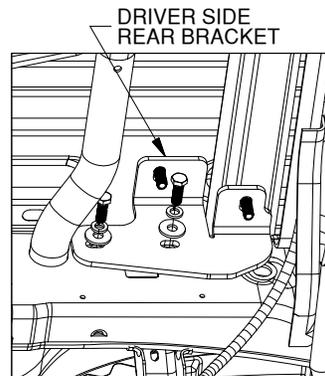

FIGURE C4: View looking up at driver side frame
- Install the driver side rear bracket.** Locate the driver side rear bracket, two M12 x 35mm hex head bolts (shorter), two 1/2" split lockwashers, and two 1/2" flat washers. Position the bracket under the installation location of the two driver side carriage bolts. Maneuver the bracket so that the 1/2" carriage bolts passes through the slots at the top of the bracket. Using 1/2" lockwashers and 1/2" flat washers, Thread the shorter (35mm) M12 hex head bolts into the frame through the holes in the bracket, see figure C4.